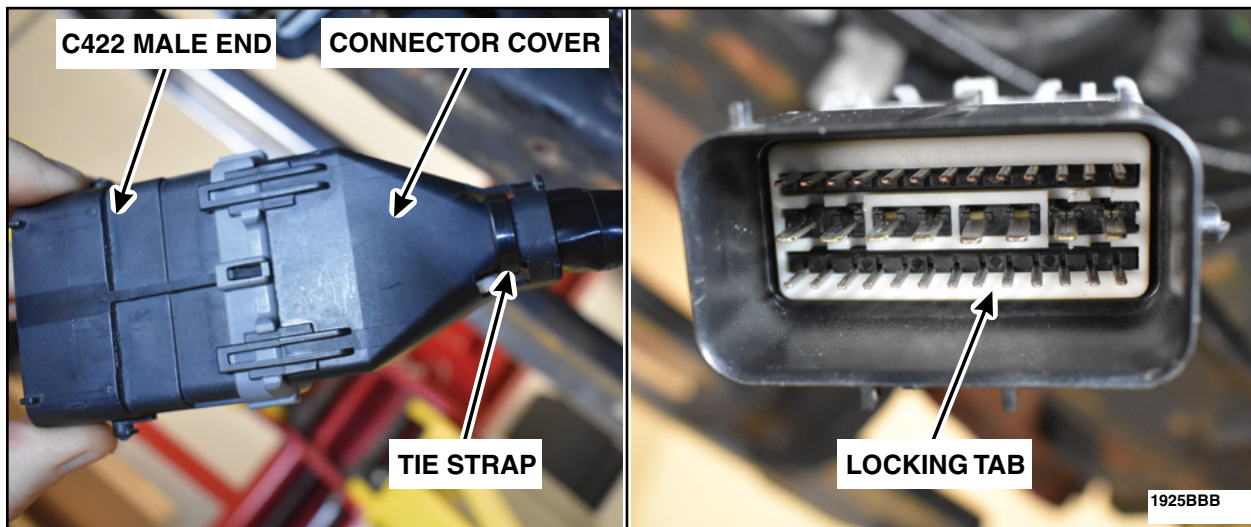

FIGURE 48
50. Remove the tie strap, cover and the white locking tab on the male end of C422. See Figure 48.